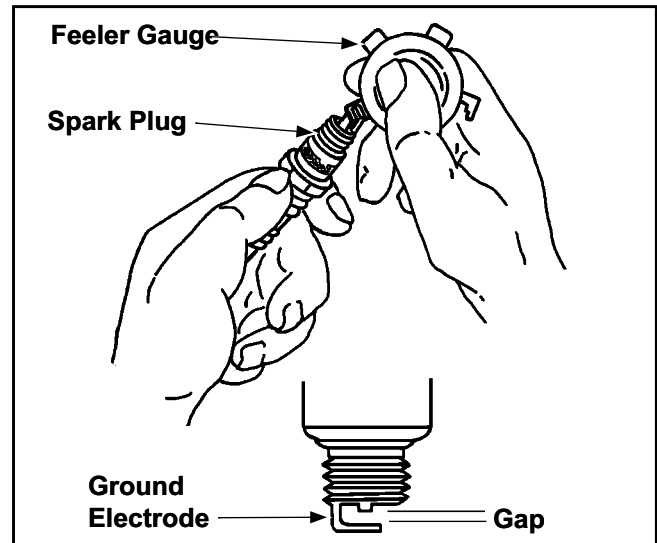

Figure 7-1. Spark Plug Gap.
3. Check spark plug gap using a feeler gauge. See Figure 7-1. Adjust the gap by carefully bending the ground electrode. Gap the spark plug to **0.762 mm (0.030 in.)**.